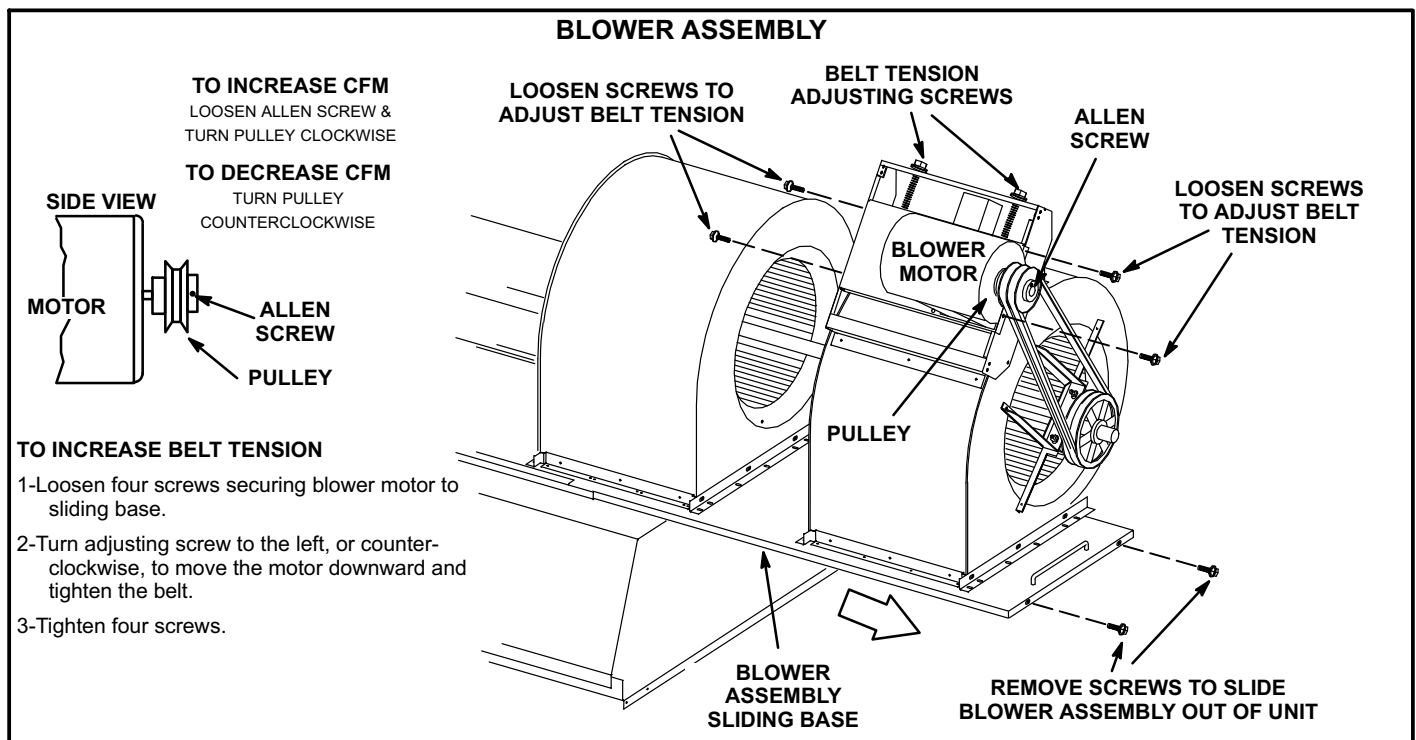

FIGURE 9
The blower compartment in all units is located between the evaporator coil and the compressor / control section on the opposite side of the condenser coil. The blower assembly is accessed by disconnecting the blower motor wiring (and all other plugs) and removing the screws on either side of the sliding base. The base pulls out as shown in figure 9.
- 2- Remove screws on either side of blower assembly sliding base. See figure 9.
- 4- *Constant Air Volume (CAV) Supply Air Blowers* - The blower RPM can be adjusted at the motor pulley. Loosen Allen screw and turn adjustable pulley clockwise to increase CFM. Turn counterclockwise to decrease CFM. See figure 9. Do not exceed minimum and maximum number of pulley turns as shown in table 1.
- 5- *Variable Air Volume (VAV) Supply Air Blowers* - Adjust motor pulley to set-up maximum blower RPM and CFM at 60 HZ. Do not exceed brake horse power of the motor. Loosen Allen screw and turn adjustable pulley clockwise to increase CFM. Turn counterclockwise to decrease CFM. See figure 9. Do not exceed minimum and maximum number of pulley turns as shown in table 1.
- 1- Loosen four screws securing blower motor to sliding base. See figure 9.